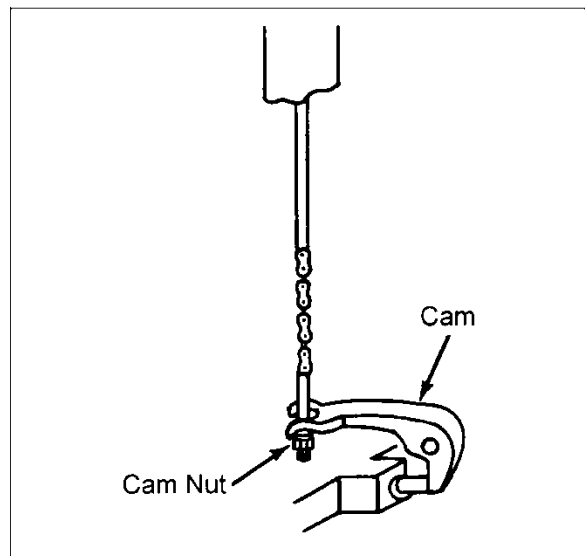

Figure 6
2. Turn cam nut while pumping the handle, Figure 6.